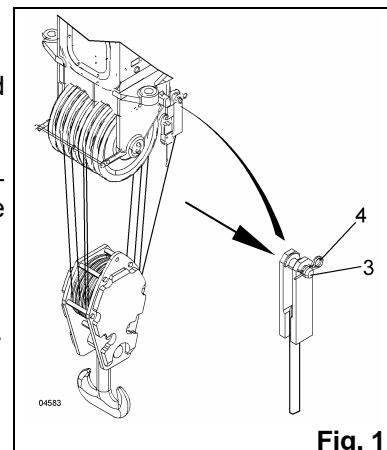

Fig. 1
**on the boom head** (Fig. 1)
The steel wire rope clamp of the winch rope is attached in the rope socket as shown in the illustration. If the locking pin is inserted (3) in the direction of the arrow (refer to item 6.7.1, Fig. 1 and 2) and fastened to the boom head or the bottom block, it is ensured that the steel wire rope clamp cannot be detached from the rope socket. Once the pin has been inserted in the direction of the arrow (refer to item 6.7.1, Fig. 1 and 2), it is essential to secure it by means of the spring clip (4).